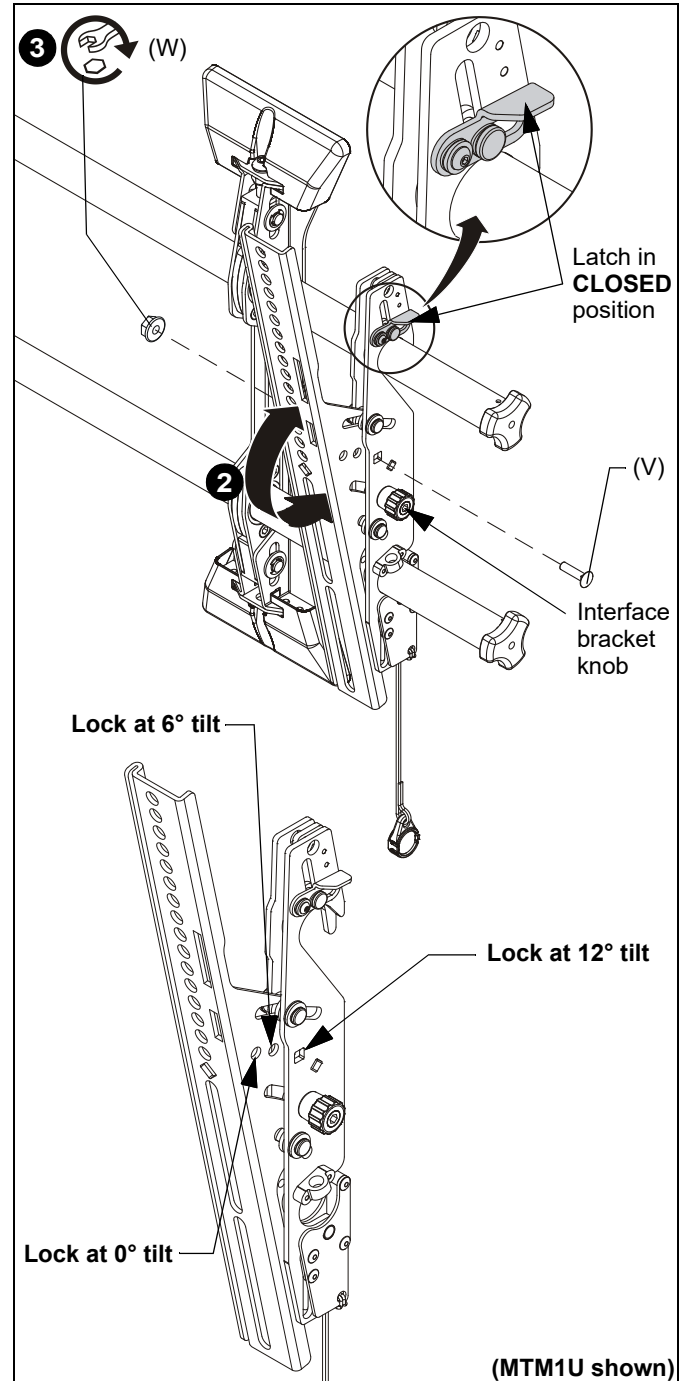

Figure 19
2. Adjust tilt as required. (See Figure 19)
3. The tilt may be locked at 0°, 6° or 12° using one 1/4-20 x 1" round head carriage bolt (V) and one 1/4-20 hex nut (W) per interface bracket. (See Figure 19)